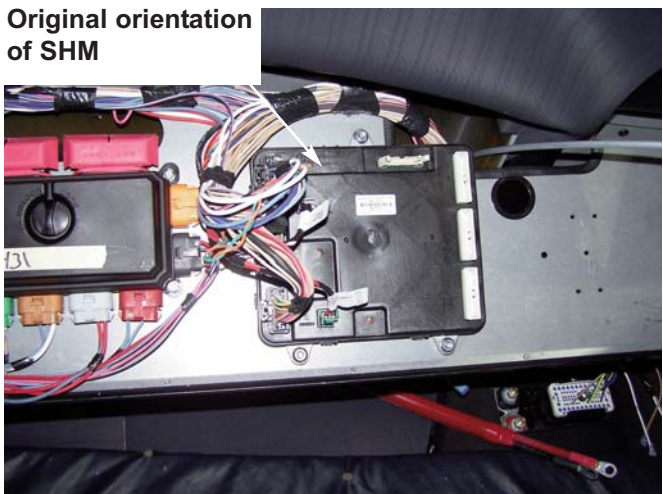

Figure 3
7. Reconnect the connectors to the SHM. See **Figure 3** shows the original orientation of the SHM.